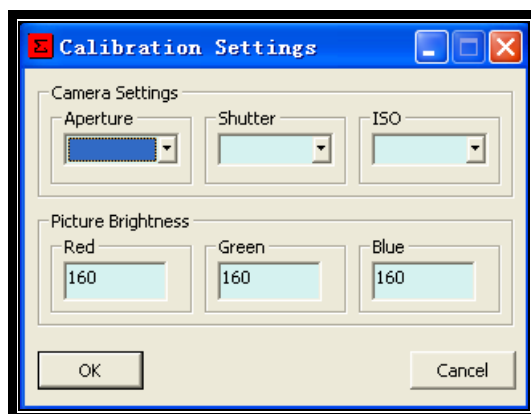

Fig. 2-8
- **Calibration Setting** button is used to pop up the calibration settings window to set the camera settings and picture brightness, shown as Fig. 2-8.